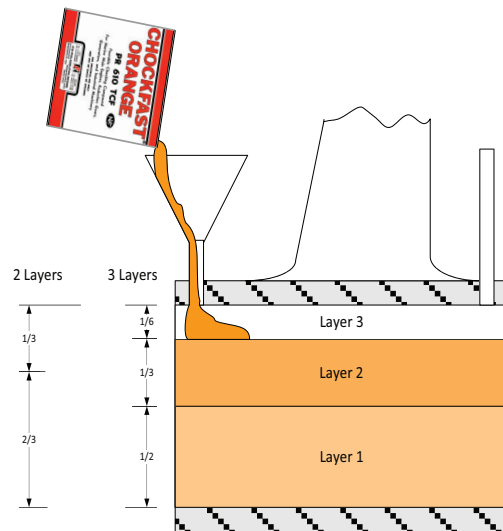

Figure 8
16. To prevent the Chockfast from overheating in large diameter and large annulus bearing applications, pour it in stages or layers allowing it to cool between layers as shown in Figure 8.
3. Fill the housing in layers, as shown in Figure 8.